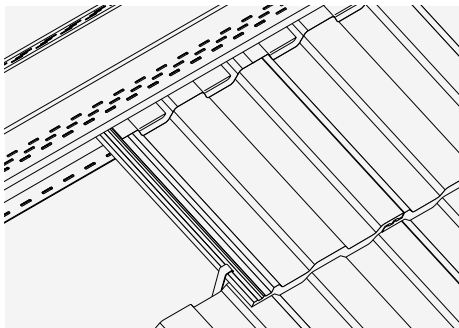

Fig. 5 – Clip top course interlocking tiles
- 8 Insert tile with filler unit into batten section by lifting top flange slightly until ribs engage over upstand and tile is held securely. (The ridge filler unit for Modern has raised lugs which fit beneath circular beads on batten sections) (Fig. 5).
- 9 Ensure each tile is mechanically fixed by using a standard tile clip located over side lock and nailed to top edge of second course tiling batten (Fig. 5).